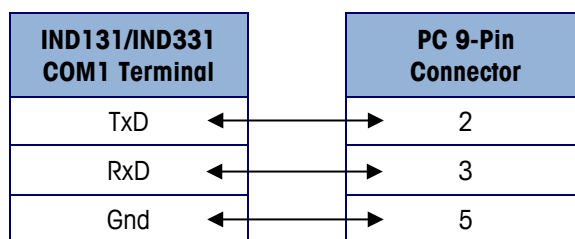

Figure 4-11: Serial Cable Wiring
4. Connect a serial cable configured as shown in Figure 4-11 from the PC to the terminal.